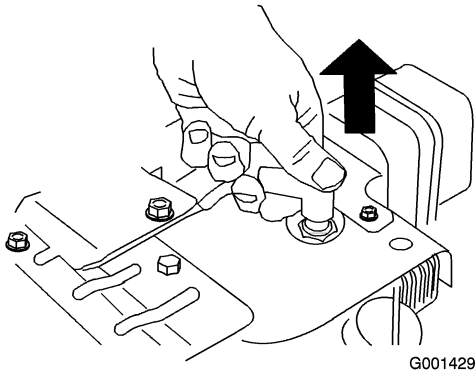

Figure 33
3. Disconnect the spark plug wire (Figure 33).